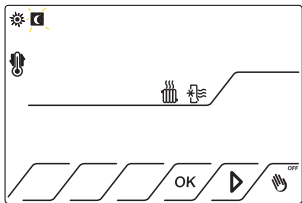

Fig.8
4.1.3 Press  up to position  /  that it will start to flash. Fig.8